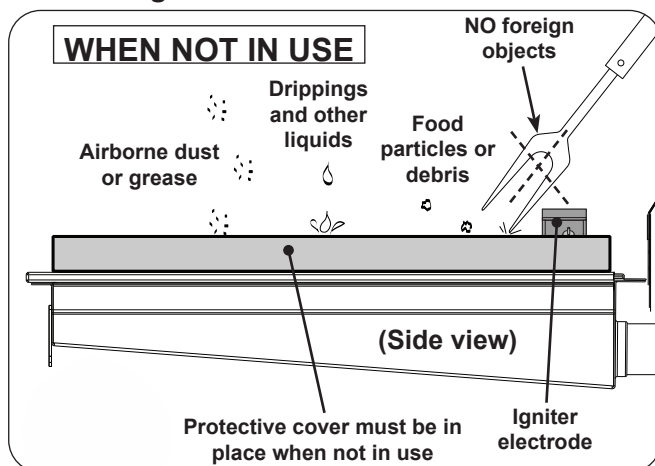

Fig. 39-2 Infrared burner - WHEN NOT IN USE
- When not in use, **always** cover the infrared burner with the stainless-steel cover. This protects the burner from drippings (from other cooking), water, airborne particles, and foreign objects (Fig. 39-2).
- Do not strike or scrape the ceramic portion of the burner as it may chip, crack, or break (Fig. 39-2).